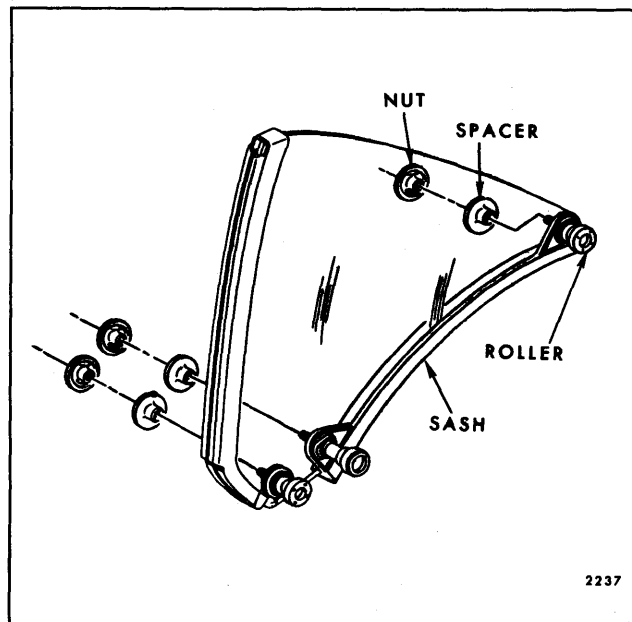

Fig. 7-23—Rear Quarter Window Assembly - "E-87" Styles
5. To install, reverse removal procedure. Fig. 7-23 is an exploded view of the quarter window assembly and identifies the various components and their assembly sequence.